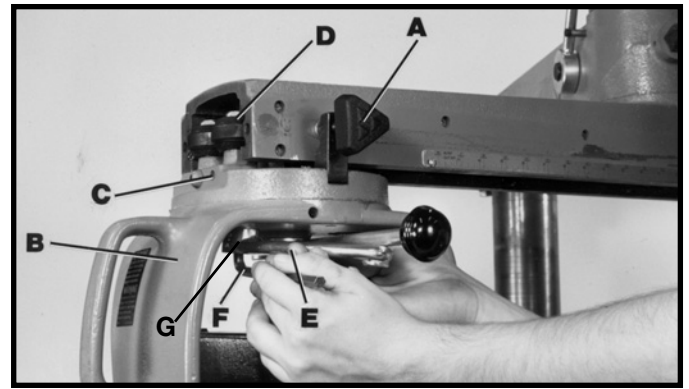

Fig. 33
1. Remove end plate from track-arm, loosen clamp knob (A) Fig. 33, and move cuttinghead (B) to the front of the track-arm, then tighten clamp knob (A).
2. Loosen two set screws, one of which is shown at (C) Fig. 33, that lock both front and rear bearing eccentric shafts. The other screw is at the rear of the carriage.
3. Rotate yoke (B) Fig. 33 until hole in yoke is under either eccentric shaft (D).
4. Place roller head wrench (E) over hex nut (G) that locks shaft (D) Fig. 33, and loosen hex nut. Repeat this procedure at rear bearing.
5. Insert hex wrench (F) into eccentric shaft (Fig. 33), and turn until all "play" is removed between bearing (D) and track rods. Repeat this procedure for the rear bearing.
6. Tighten hex nuts with wrench (E) and lock set screws (C) with wrench at both bearings (Fig. 33). Replace end cap on track-arm.